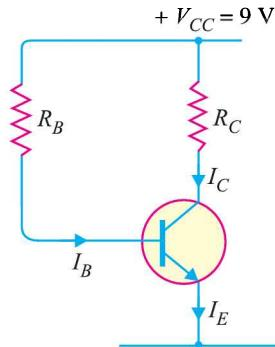

Fig. 9.49
3. Fig. 9.49 shows biasing by base resistor method. If it is required to set the operating point at 1mA, 6 V, find the values of  $R_C$  and  $R_B$ . Given  $\beta = 150$ ,  $V_{BE} = 0.3\text{ V}$ . [  $R_C = 3\text{ k}\Omega$ ,  $R_B = 0.3\text{ M}\Omega$  ]